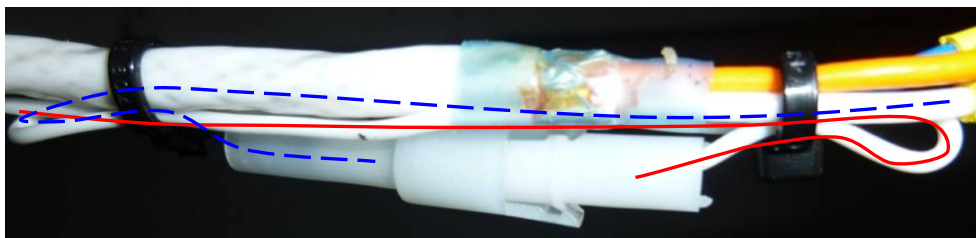

Figure 7 Shield-ground connection at wingtip.
- 1.8.22 If necessary to reduce free cable length, use cable ties (Item 19 of List 2.2), refer to Figure 7.